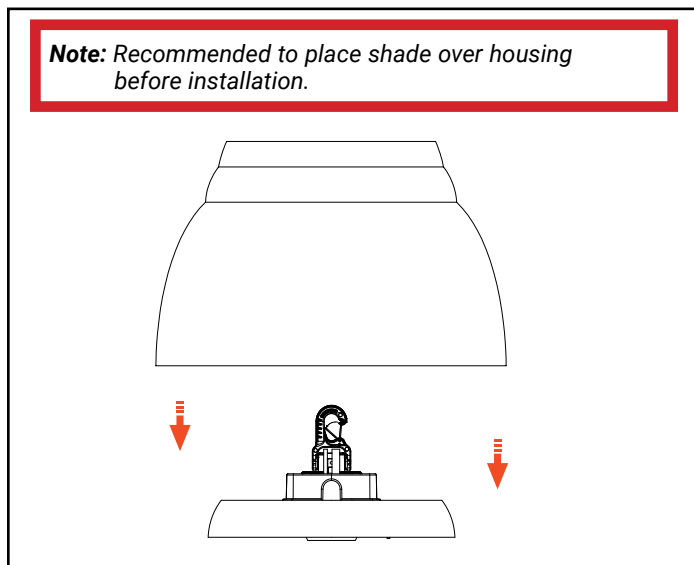

Figure 2.
3. Slip 3D printed shade over LED Housing. (Figure 2.)